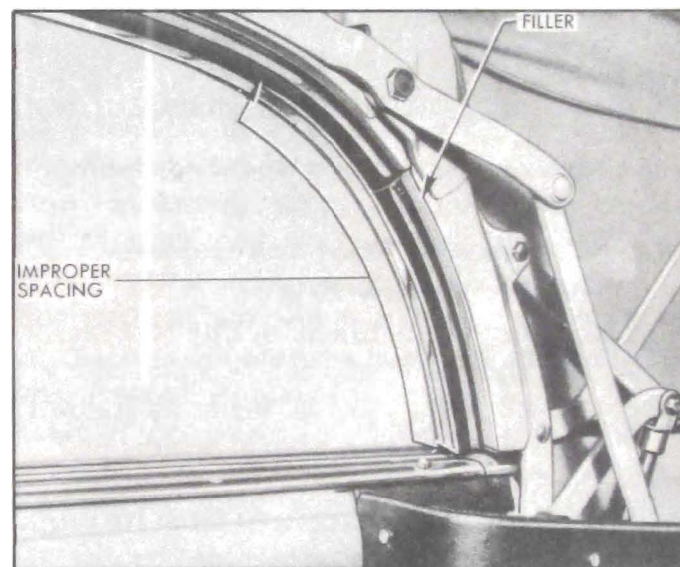

Figure 13-58—Rear Quarter Section of Folding Top
1. If spacing between window and rear quarter pillar is excessive, remove the wood filler and place a thickness of waterproof cardboard shim behind it. Filler attaching screws are accessible on rear side of pillar. This is the usual method of making this correction. See figure 13-58.